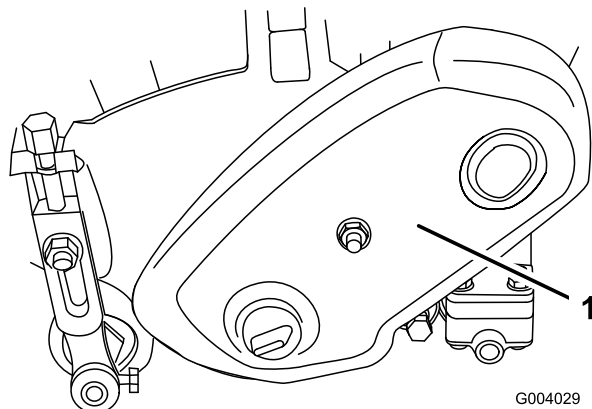

Figure 32
1. Remove the belt cover mounting fasteners and belt cover to expose belt (Figure 32).